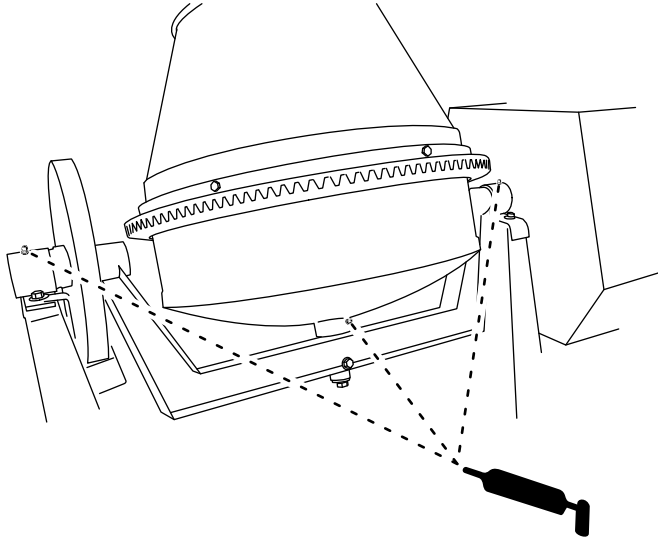

Figure 43
1. Clean around each grease fitting with a rag, and lift the plastic cap off the grease fitting (Figure 43).
2. Use a grease gun to lubricate the grease fittings of both trunnions and the drum spindle with general-purpose lithium grease (Figure 43).